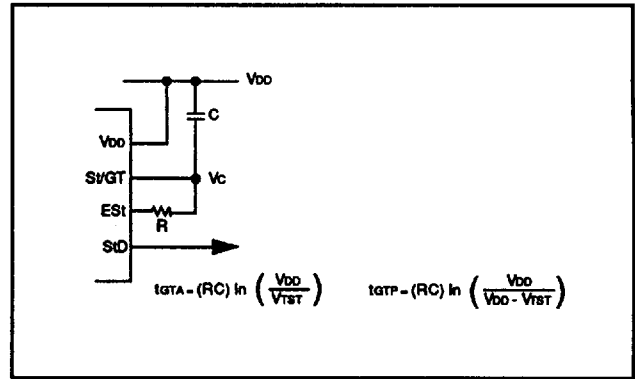

Figure 3 Basic Steering Circuit
Before a decoded tone pair is registered, the receiver checks for a valid signal duration (referred to as "character-recognition-condition"). This check is performed by an external RC time constant driven by ES_t. A logic high on ES_t causes V_C (see Figure 3) to rise as the capacitor discharges. Provided that signal condition is maintained (ES_t remains high) for the validation period (t_{GTF}), V_C reaches the threshold (V_{TS_t}) of the steering logic to register the tone pair, thus latching its corresponding 4-bit code (see Table 5) into the output latch. At this point, the GT output is activated and drives V_C to V_{DD}. GT continues to drive high as long as ES_t remains high. Finally, after a short delay to allow the output latch to settle, the "delayed steering" output flag (StD) goes high, signaling that a received tone pair has been registered. The contents of the output latch are made available on the 4-bit output bus by raising the three-state control input (OE) to a logic high. The steering circuit works in reverse to validate the interdigit pause between signals. Thus, as well as rejecting signals too short to be considered valid, the receiver will tolerate signal interruptions (dropouts) too short to be considered a valid
Where independent selection of receive and pause are not required, the simple steering circuit of Figure 3 is applicable. Component values are chosen according to the formula: